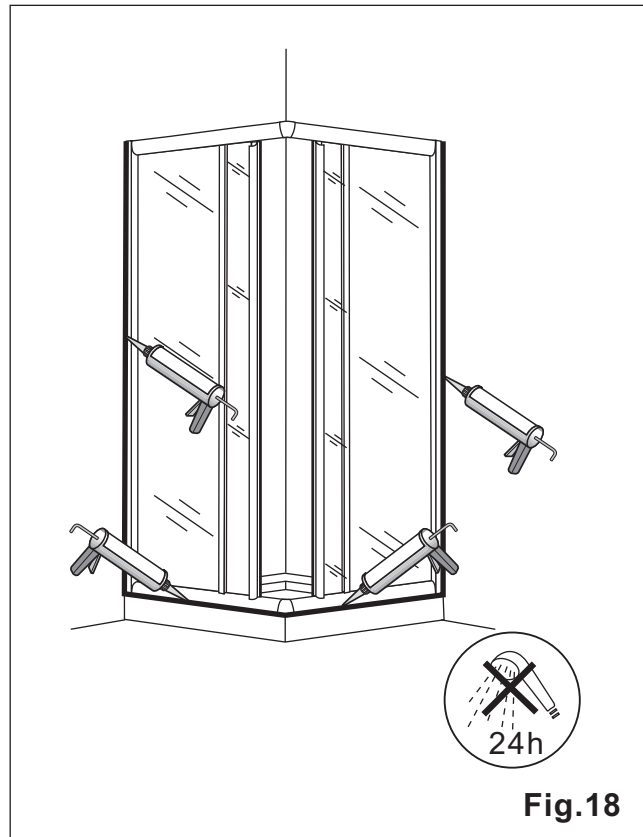

Fig.18
18. Apply silicone sealant to the joints on the outside of the shower enclosure only, as indicated by the thick line in **Fig.18**.